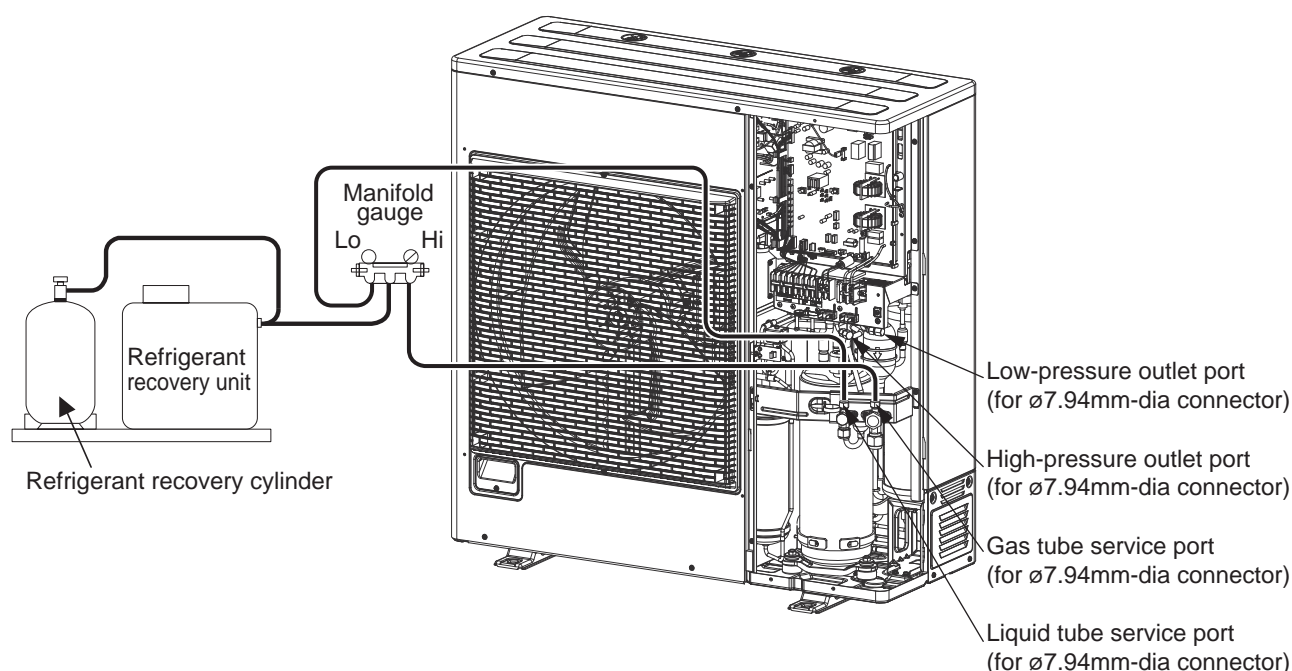

Fig. 4
- ① Connect the manifold gauge to the high- and low-pressure outlet ports on the outdoor unit where pump down will be performed. Be sure that no air enters the tubing at this time.
- ② Follow the instructions in “3-2-1. Cooling operation (for all units)” and operate all units in Cooling mode for approximately 10 minutes. Then fully close the liquid tube valve on the outdoor unit where pump down will be performed.
- ③ When the high-pressure gauge reaches 2.8 MPa or higher, or the low-pressure gauge reaches 0.5 MPa or below, at the outdoor unit where pump down is being performed, press the ON/OFF button on the outdoor unit maintenance remote controller to stop operation at all units. Then immediately fully close the gas tube valve on the outdoor unit where pump down is being performed.
- ④ Using hoses with Schrader-type push-to-release valves, connect the manifold gauge valves to the gas tube service port, the liquid tube service port to undergo pump down. (Fig. 4)
- (1) Turn off power to the outdoor unit.
- (2) Short-circuit the AP pin on the outdoor control PCB, then supply power to the outdoor unit.
- (3) Connect the manifold gauge to the high- and low-pressure outlet ports (Schrader-type valves) on the outdoor unit. (Fig. 4)